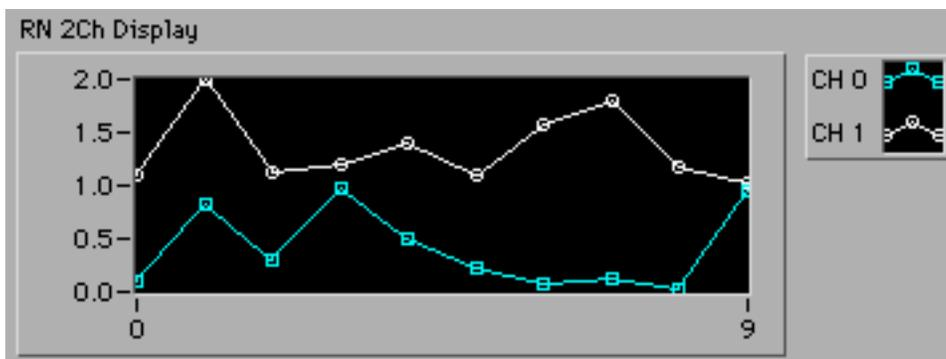

Figure P5.5
- 5.5** Using a **Waveform Graph**, display two channels of data, where each channel contains 10 random numbers. (Use Auto-indexing with a **For Loop**.) One channel has random numbers between 0 and 1, and the other, between 1 and 2. Use 0, 1, ..., 9 for x -indices for both channel data. Label the graph **RN 2Ch Display**, and display the data from each channel using a different color. Also, label each channel **CH 0** and **CH 1** in the legend. The complete front panel is shown in Figure P5.5. Save the VI as **P05_05.vi**.